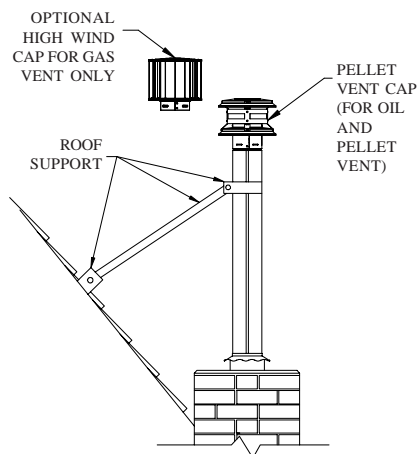

Fig 19
Step 5. For improved draft, the liner may be extended in height above the top of the masonry chimney by simply adding additional Pipe Sections. If the vent is more than 3 feet above the top of the chimney, secure it with a locally fabricated brace, as shown in **Figure 19**.